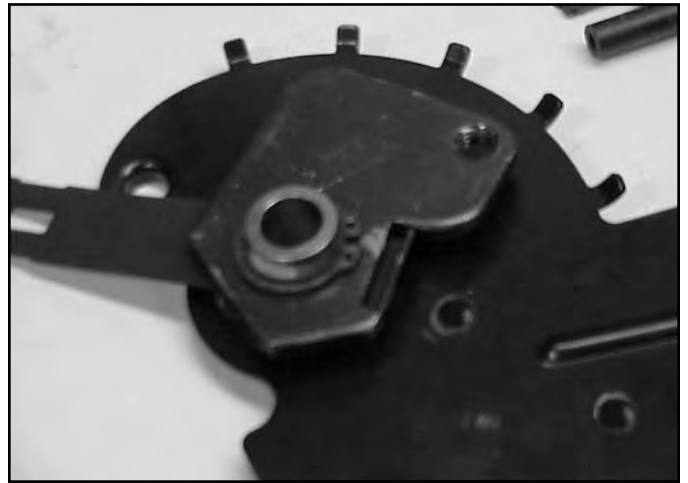

Fig 079
4. The pivot assembly will slide off the axle. This includes the bearing, bearing retainer, HOC plate, spring arm, and pivot arm (Fig. 079).